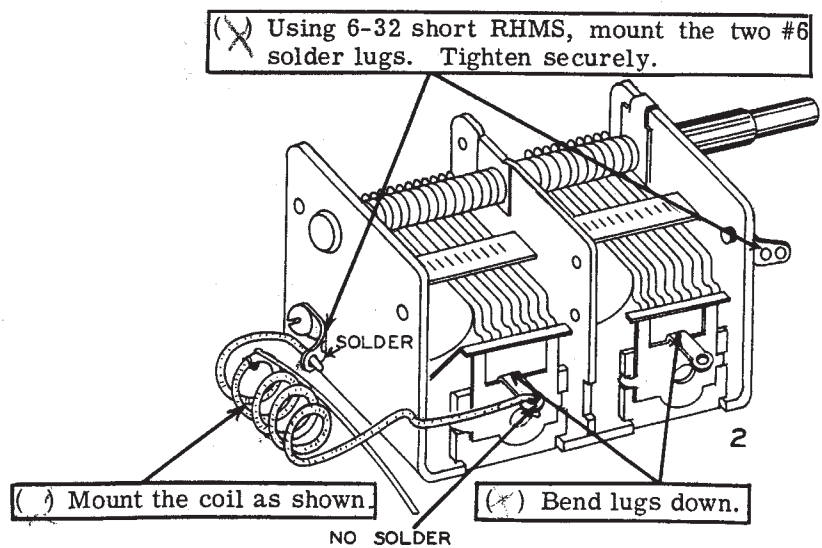

Figure 2
- () Prepare the tuning gang as shown in Figure 2 and mount the assembly on the chassis using three short 6-32 RHMS with lock washers under the heads.